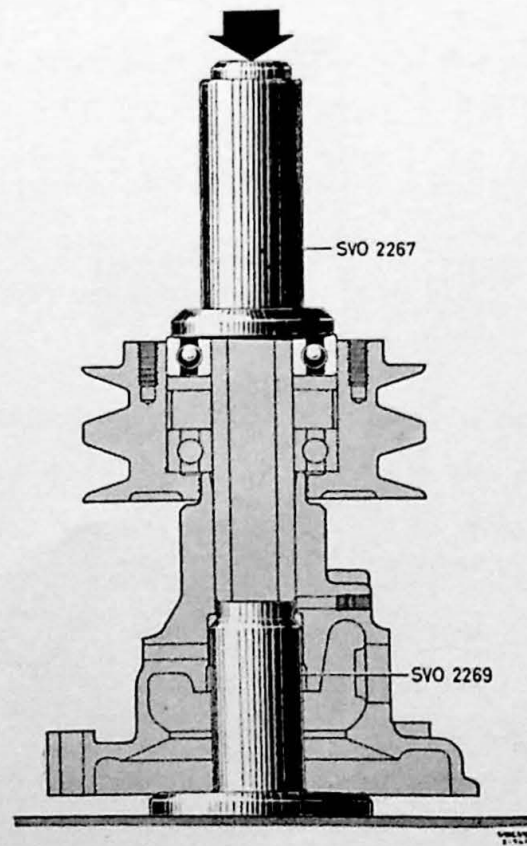

Fig. 1-139. Fitting forward bearing in pulley.
4. Fit the spacer ring after having half filled it with grease and press in the front bearing with tool SVO 2267. The housing should still be on the plate with tool SVO 2269 in the place of the impeller (Fig. 1-139). Fit the lock ring for the forward bearing on the bearing journal extending from the housing.